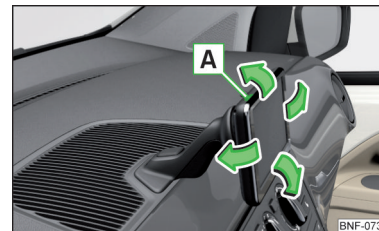

Fig. 88
- You can set the tilt to the required position by gently moving the device in the direction of the arrows » Fig. 88 » .
- Switch on the device by pressing button » Fig. 88.